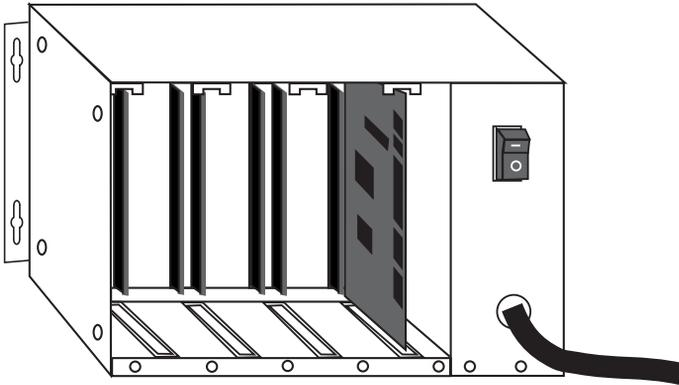

Figure 2-3 — Populated Micro PC Card Cage
4. Slide the 5066 into the card cage. The ROM–BIOS label on the card should face to the left. See Figure 2-3 for an illustration of the 5066 in a Micro PC card cage.